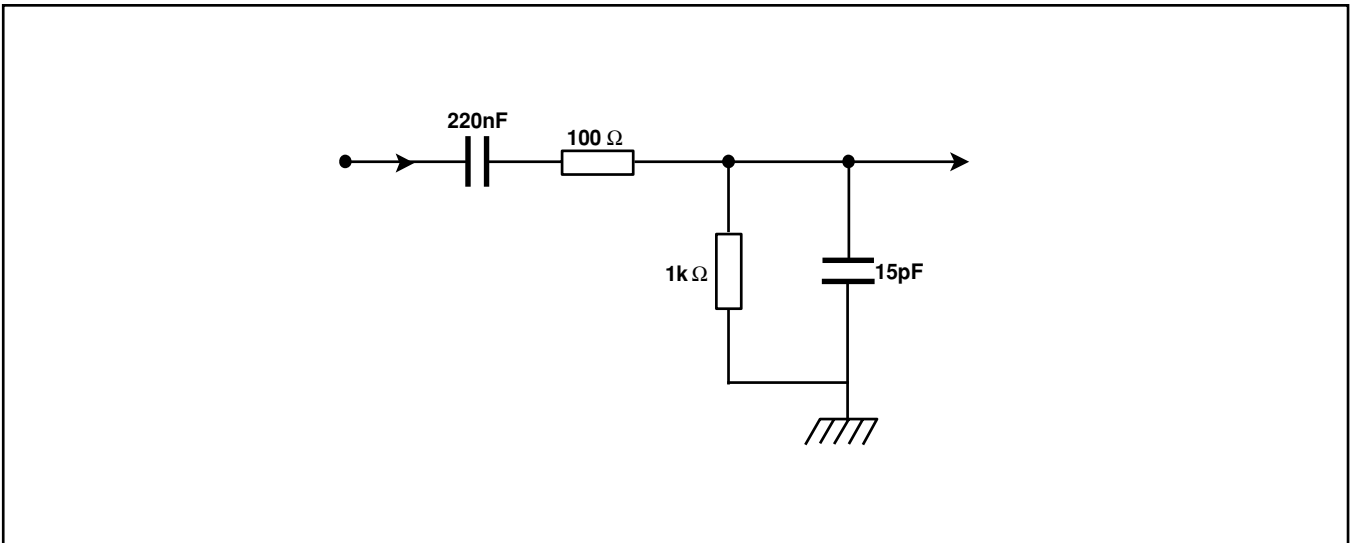

Figure 14. Nominal baseband output load test condition
- System specifications refer to total cascaded system of converter/AGC stage and baseband amplifier stage with nominal 6dB pad as interstage filter and load impedance as detailed in Figure 14.
- Dynamic range assuming termination as detailed in Figure 14, and including 6 dB interstage filter insertion loss, delivering 700mVp-p at baseband outputs (pins 17,20). AGC monotonic from Vee to Vcc (Fig.4).